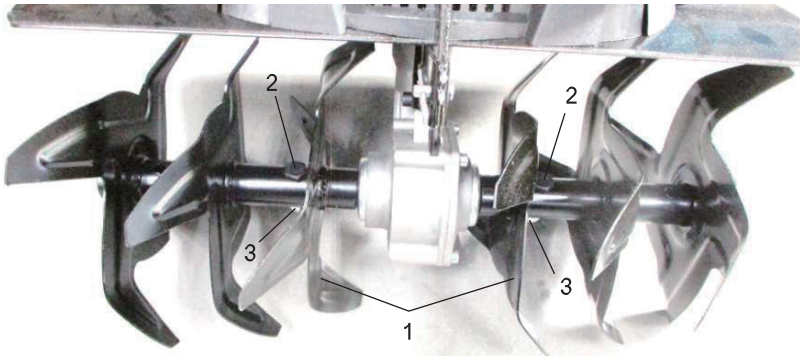

Fig. 13
4. Hold the nut (3) firmly using a suitable wrench, and loosen the hex bolt (2) counterclockwise using a suitable wrench, and then remove them and keep them secure to avoid loss (Fig.13).